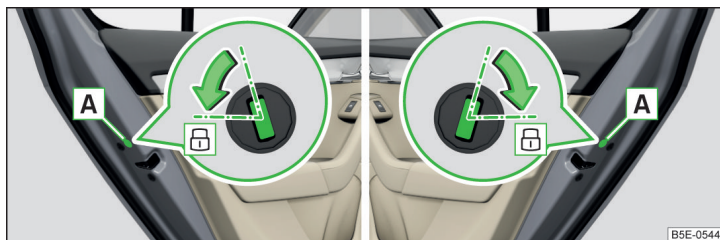

Fig. 336 Emergency locking: Left/right rear door
- › Open the corresponding back door and remove the trim **A** » Fig. 336.